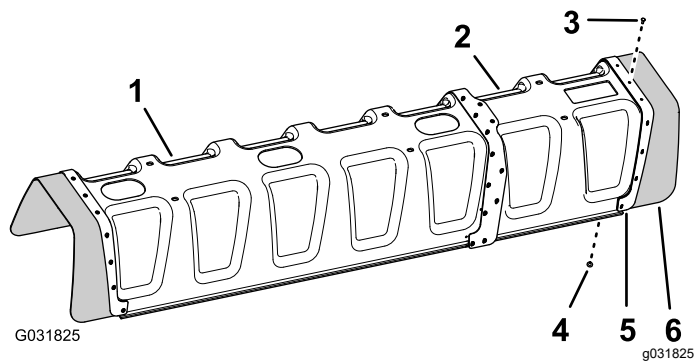

Figure 149
- 5. Align the holes in the rubber cover and the reinforcement plate (single row) that you removed in step 2 with the holes in the end of the over extension (Figure 149).